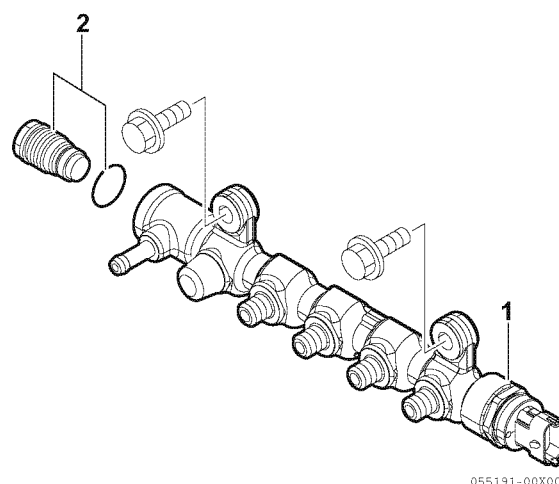

Figure 7-11
Spare parts for the rail pressure sensor (**Figure 7-11, (1)**) and the pressure limiting valve (**Figure 7-11, (2)**) are available for replacement. See the below table for the part number and the tightening torque.